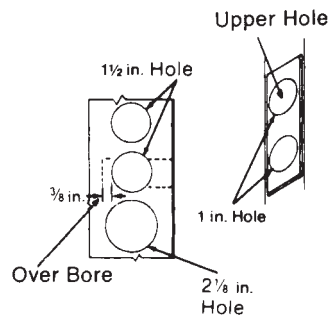

Figure 13.58 Boring holes.
5. Bore two 1-inch holes in the edge of the door. The upper hole should be extended ¾ inch beyond the far side of the middle hole on the door panel (Fig. 13.58). Mortise the edge of the door for the latch front.